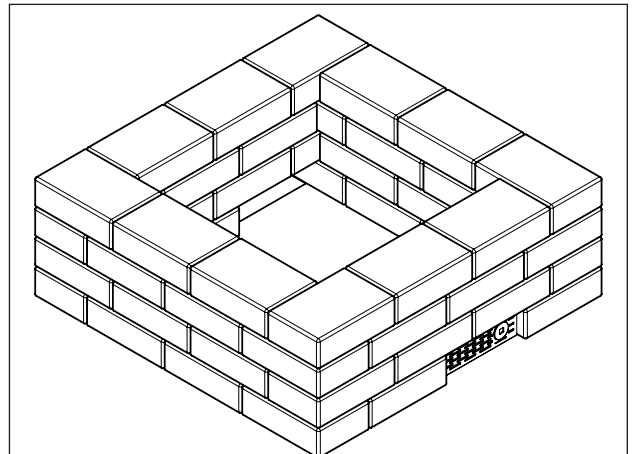

Figure 9: Brick layout
6. Repeat the step 2 and 3. (See Figure 9). Ensure each layer of the bricks is leveled.